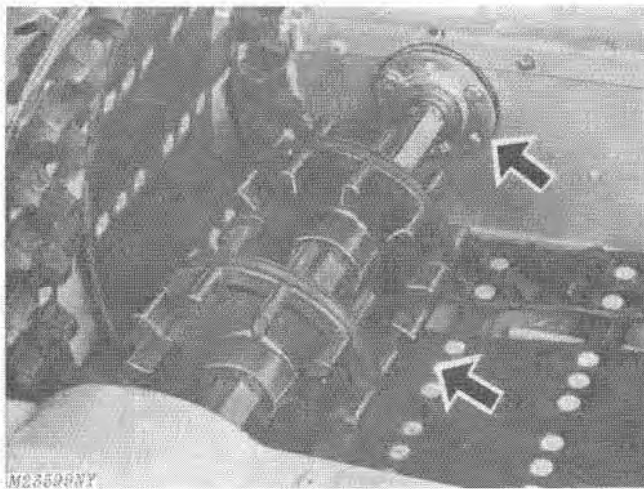

Fig. 13-Drive Wheels
6. Move drive wheels toward center of shaft, Fig. 13.